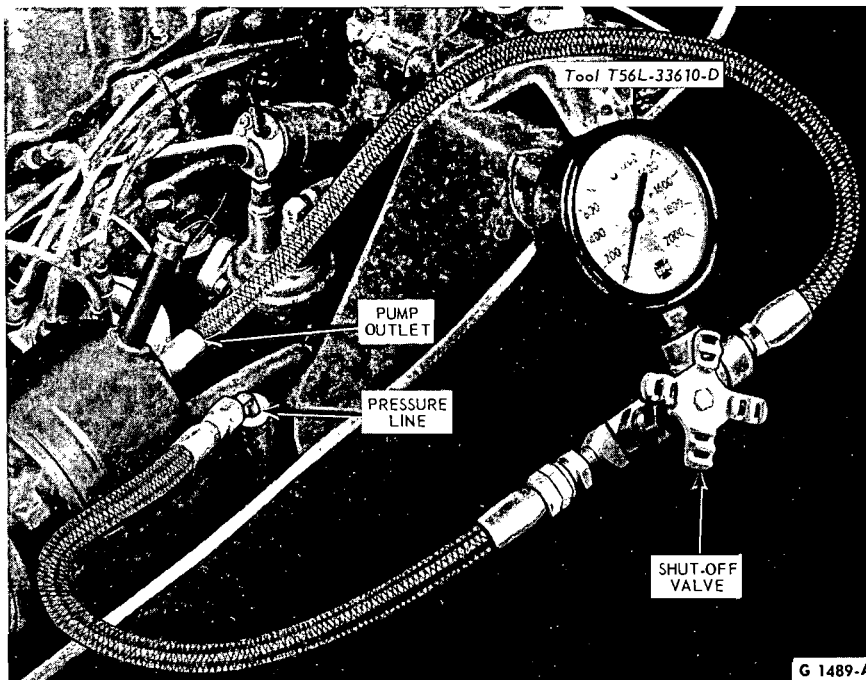

FIG. 1—Pressure Testing Tool Installed—Typical
2. Disconnect the pressure line hose from the pump outlet, and install a 0-2000 psi pressure gauge and shut off valve between the end of the hose and the pump outlet (Fig. 1).